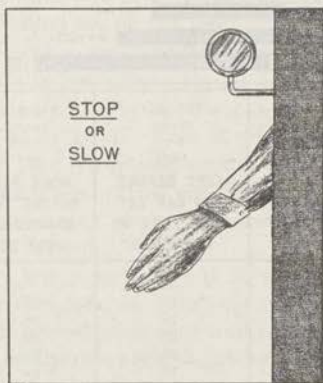

FIGURE 5.
(3) *Slow or stop*.—Extend left arm at an angle of 45° below horizontal. (See fig. 5.)